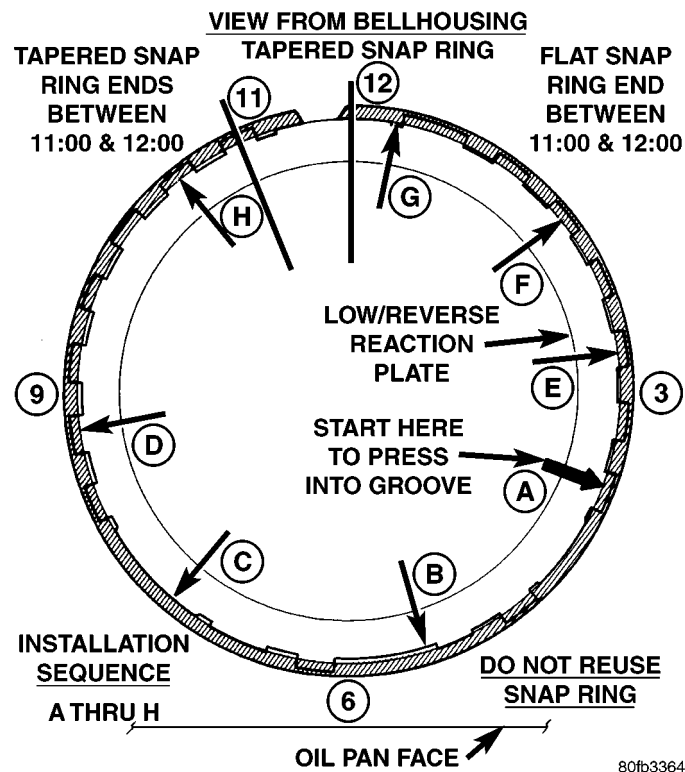
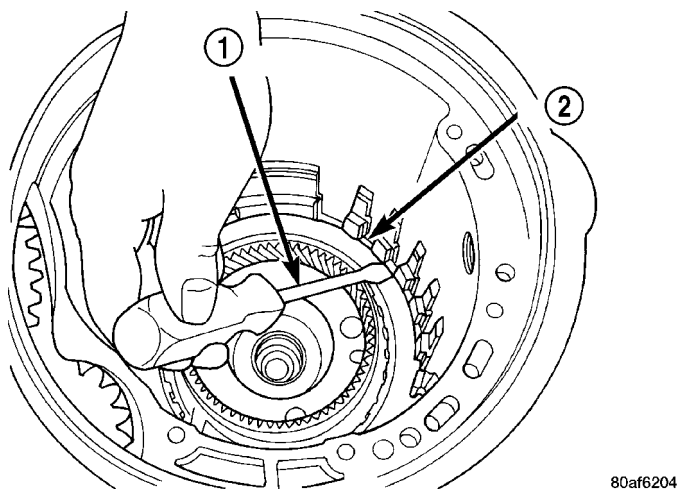

Fig. 127 Tapered Snap Ring Instructions
Fig. 128 Snap Ring Installed
(42) Install tapered snap ring (with tapered side up) as shown in (Fig. 127) (Fig. 128).